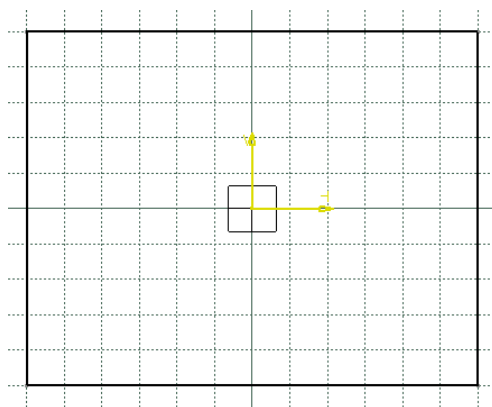

Figure 1-44 Outer loop of the sketch
- Draw the sketch of the model using the **Rectangle**, **Profile**, and the **Circle** tools, refer to Figures 1-44 through 1-46.
3. Move the cursor to the location whose coordinates are 60, 50 and specify the upper right corner of the rectangle. Figure 1-44 shows the outer loop of the sketch drawn using the **Rectangle** tool.